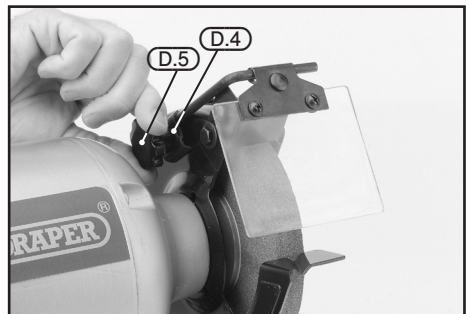

FIG.6
- To fit the eye shields to the bench grinder, attach clamp (D.4) to the wheel guard using lock knob (D.5) large star washer and large washer as shown in Fig.6. Insert mounting rod into the clamp, position as required and tighten lock knob. The eye shield is fully adjustable. It can be adjusted by either loosening the lock knob and moving the rod or by moving the eye shields.